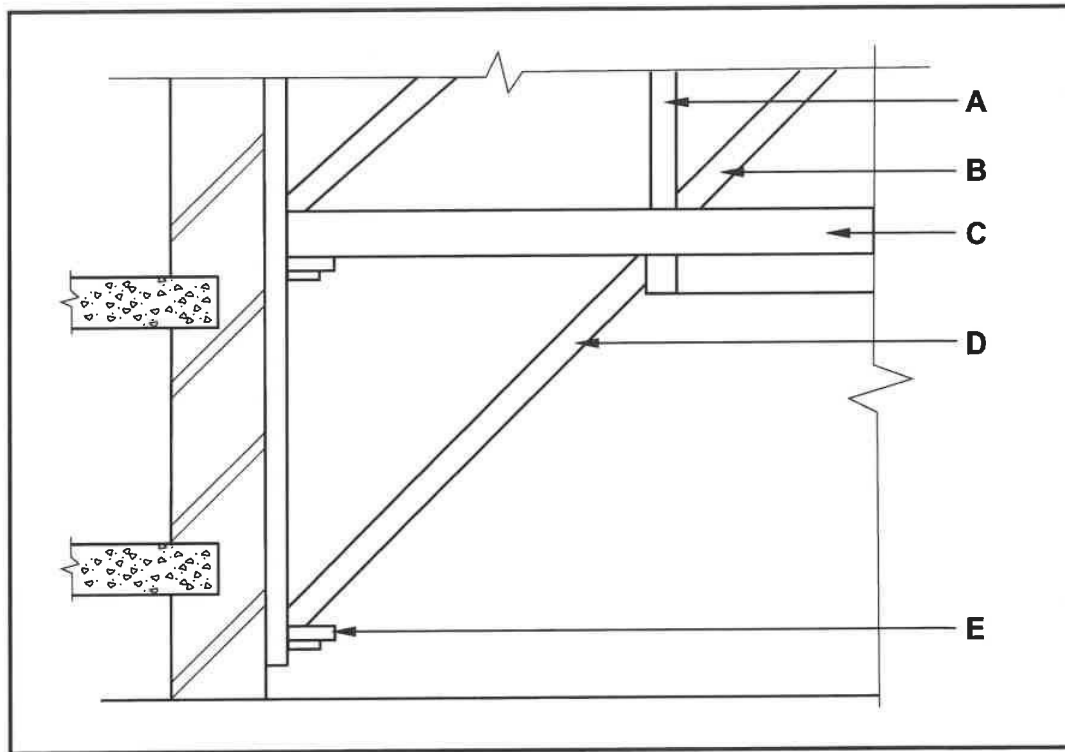

FIGURE 5.3
- 5.3 FIGURE 5.3 below shows a sectional view through a part of a double-flying shore. Label parts A to E.